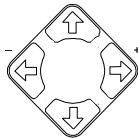

Figure 25: Navigation Control Keys
- Using the navigation control keys on the infra-red remote control transmitter (see Figure 49), to fine tune the zoom position (that is, to slowly zoom-in at any location on the screen)³, as Figure 25 illustrates